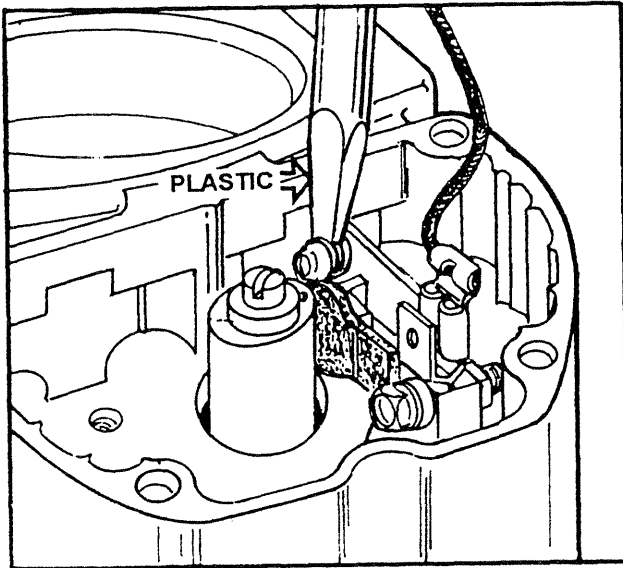

Figure 601. Checking Secureness of Contact Points
- A. Remove cover (15) from housing (48) as specified in DISASSEMBLY, paragraph 4.2.1 step A.
- B. Turn magneto drive shaft until cam follower rests on high lobe of cam holding points in their open position. Using a fiber or plastic rod with a screw driver shaped end, prod contact points as indicated in Figure 601. If any looseness is noted, replace contact assembly.